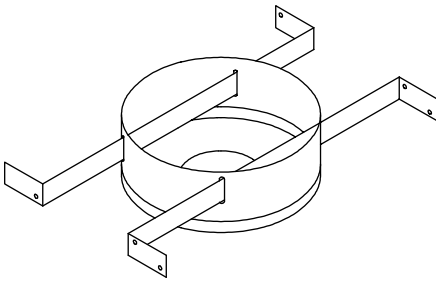

Figure 13
1. Description. The Bucket Support (*shown in Figure 13*) is for properly supporting the B-vent between 16 or 24-inch O.C. joists or rafters, or for providing a transition fitting between Dura-Connect Single Wall Connector and the B-vent Pipe Sections. A maximum of 20 feet of Type B Gas Vent may be supported. Note that the Bucket Support must be installed prior to the sheetrock.